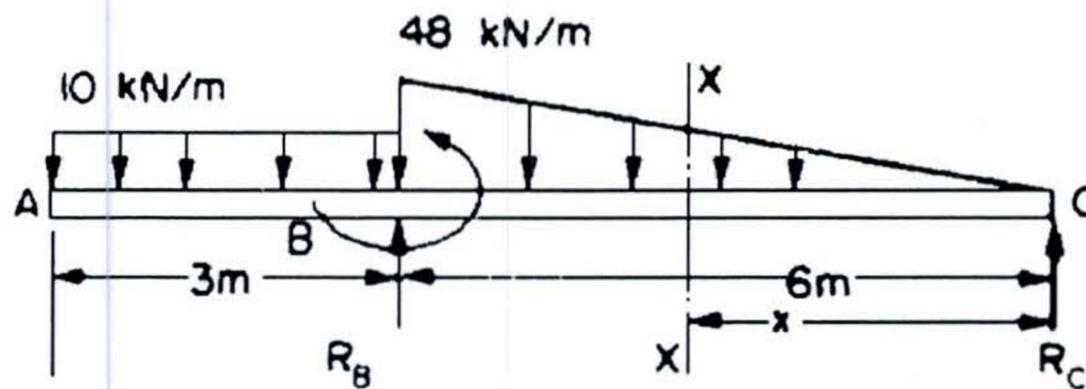

Figure 2
- c) A beam ABC is 9m long and supported at **B** and **C** and 6m apart as shown in figure 2 below. The beam carries a triangular distributed load over the portion **BC** together with an applied counter clockwise couple of moment 80kN m at **B** and uniformly distributed load (UDL) of 10kN/m over **AB**, as shown in the diagram. Do the necessary computations and draw the shear force and bending moment diagrams for the beam.